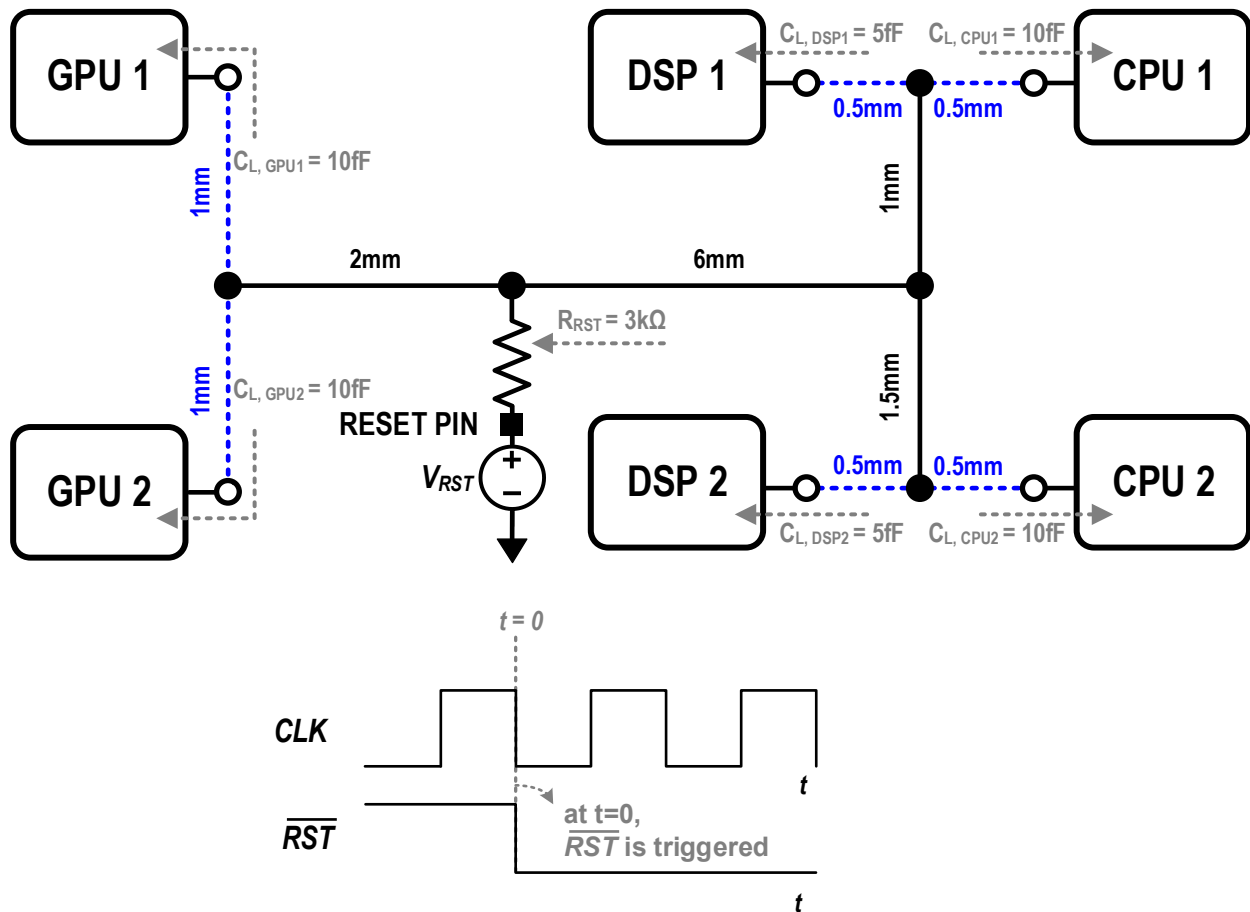

Fig. 1: Reset interconnect path in 2-Core Processor with timing diagram
Consider a 2-core processor with 2 dedicated GPUs and 2 DSP cores in 45nm operating at 1V and max frequency of 200MHz. The path to each block from the *RESET PIN* is shown in Fig. 1 along with the corresponding global/intermediate (solid-black/dotted-blue) interconnect lengths. The interconnects are assumed to be drawn with minimum widths allowed by the technology node. Using an ideal voltage source V_{RST} and a $3k\Omega$ resistor at the *RESET PIN*, reset signal is triggered at $t = 0$, synchronous to rising edge of clock. The input capacitance of the reset buffer in each block is shown via the dashed arrows in Fig. 1.
- Q1. Draw the equivalent circuit for the described interconnect path in Fig. 1. Annotate all the R, C values on the equivalent circuit, and estimate the **propagation delay** from *RESET PIN* to each receiver module using Elmore delay method with π lumped RC model.